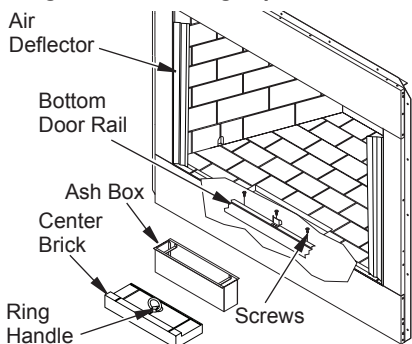

Figure 27 - Installing Bottom Door Frame and Air Deflectors
Slide air deflector in between the front side face and side brick panel (see Figure 27). The notched end of the deflector sits on bottom hearth. Air deflector does not require any fastening.
The front side faces and side brick panels will hold the deflector in place (see Figure 27).
3. Remove center ash refractory by pulling ring handle (see Figure 27).
5. Remove three screws located at front of firebox (see Figure 27).